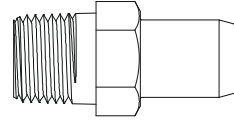

Figure 2: Y99AX-1 Pressure Test Fitting
7. If you desire to measure the outlet pressure, use the bottom cast pressure test fitting or use the Y99AX-1 pressure test fitting (see Figure 2) and an approved pipe joint compound on the male threads and screw the fitting into either side of the valve, which ever side is convenient, replacing the pressure tap plug.